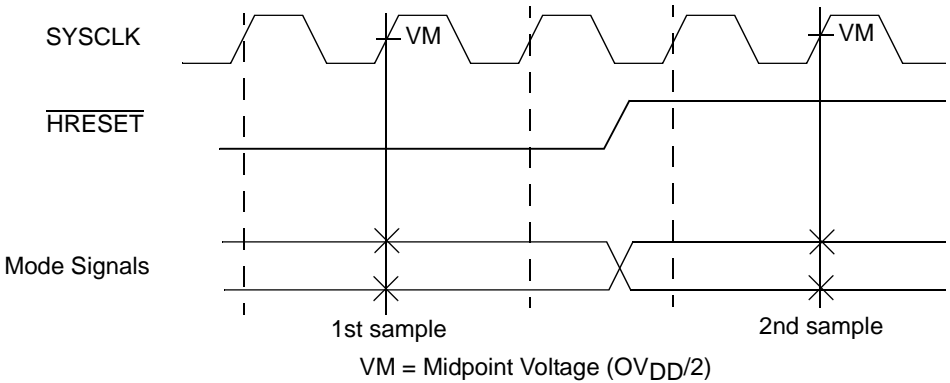

Figure 5. Mode Input Timing Diagram
Table 9 provides the processor bus AC timing specifications for the MPC7457 as defined in Figure 4 and Figure 5. Timing specifications for the L3 bus are provided in Section 1.5.2.3, “L3 Clock AC Specifications.”
- $\overline{\text{BMODE}}[0:1]$  and  $\overline{\text{BVSEL}}$  are mode select inputs and are sampled before and after  $\overline{\text{HRESET}}$  negation. These parameters represent the input setup and hold times for each sample. These values are guaranteed by design and not tested. These inputs must remain stable after the second sample. See Figure 5 for sample timing.
Figure 5 provides the mode select input timing diagram for the MPC7457.